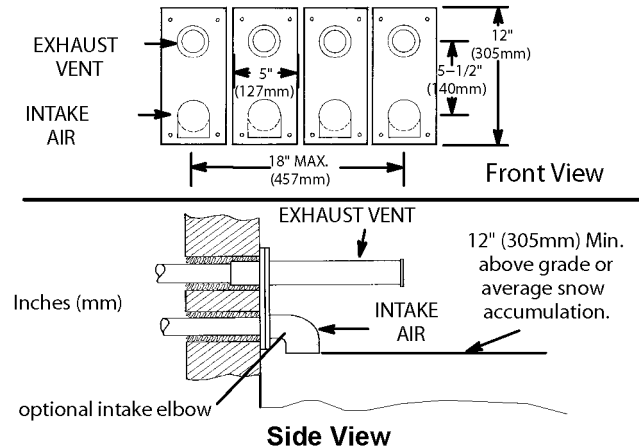

Figure 37
8. Based on the recommendation of the manufacturer, a multiple furnace installation may use a group of up to four terminations assembled together horizontally, as shown in Figure 37